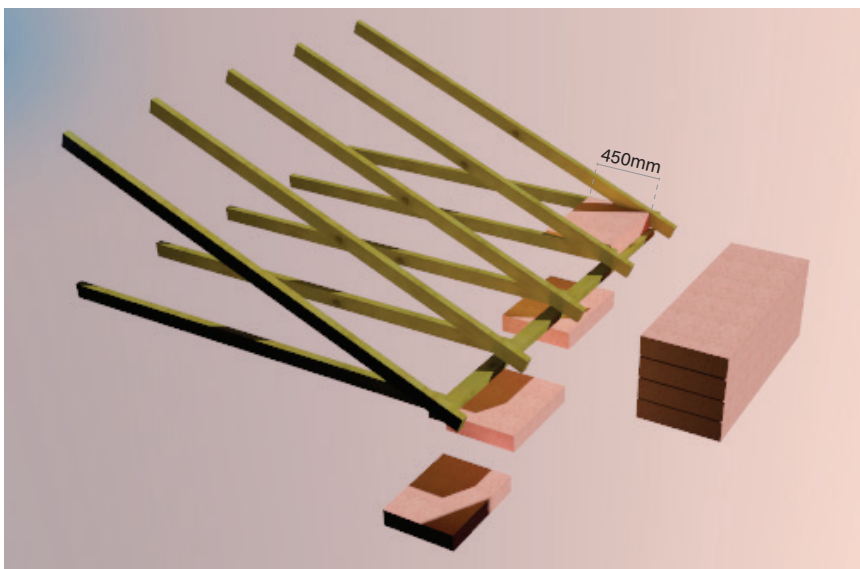

Figure 2
- The Perimeter batt is meant to use its 450mm width as an aid to the installer and speed up installations (Fig. 2).